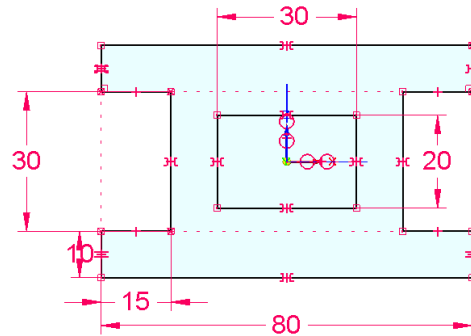

Figure 3-39 Final profile after adding all dimensions
3. Next, select the right vertical line of the inner loop and place the dimension on the right of the sketch. Enter **20** in the **Dimension Value** edit box and then press ENTER; the inner loop turns black, indicating that it is fully constrained. This completes the dimensioning of the profile. The final profile, after adding all dimensions, is shown in Figure 3-39.